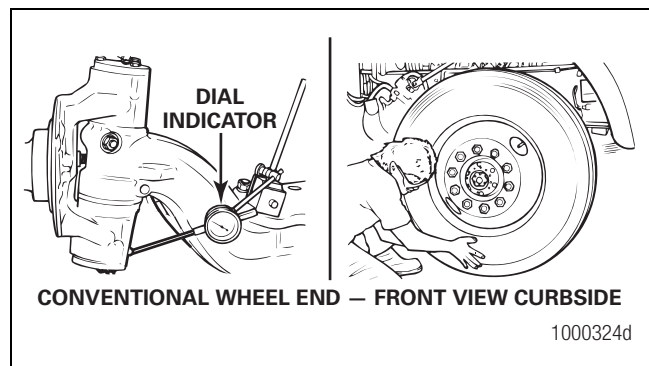
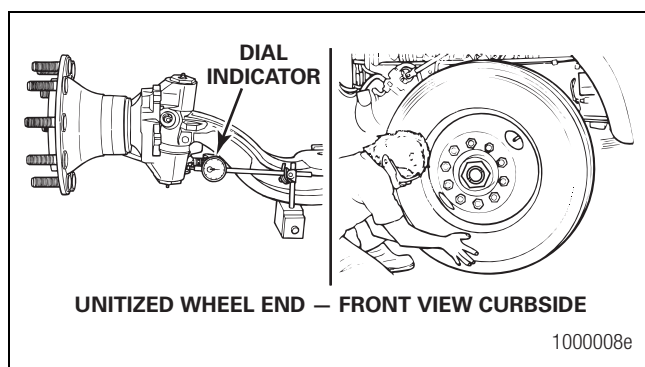

Figure 6.13
Figure 6.14
6. Check the lower king pin bushing. Install a dial indicator so that the base is on the I-beam and that the tip is against the side of the bottom of the knuckle. Figure 6.13 and Figure 6.14.
- **If the dial indicator moves a total of 0.015-inch (0.381 mm):** The lower bushing is worn or damaged. Replace both bushings in the knuckle. Refer to Maintenance Manual 2, Front Non-Drive Steer Axles, for more information. Figure 6.13 and Figure 6.14.